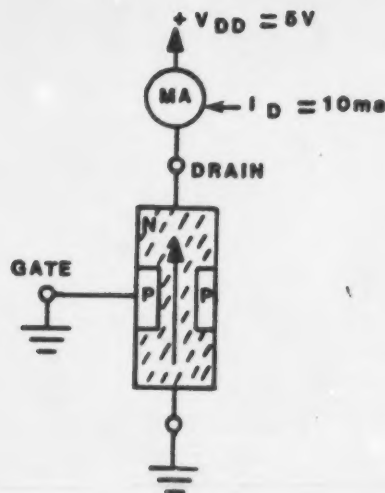

Figure 6
- ⑦. The effective cross-sectional area of the channel is the key to FET operation. Now let's apply a voltage across the bar of an N-channel JFET, as shown in Figure 6, to see what happens.